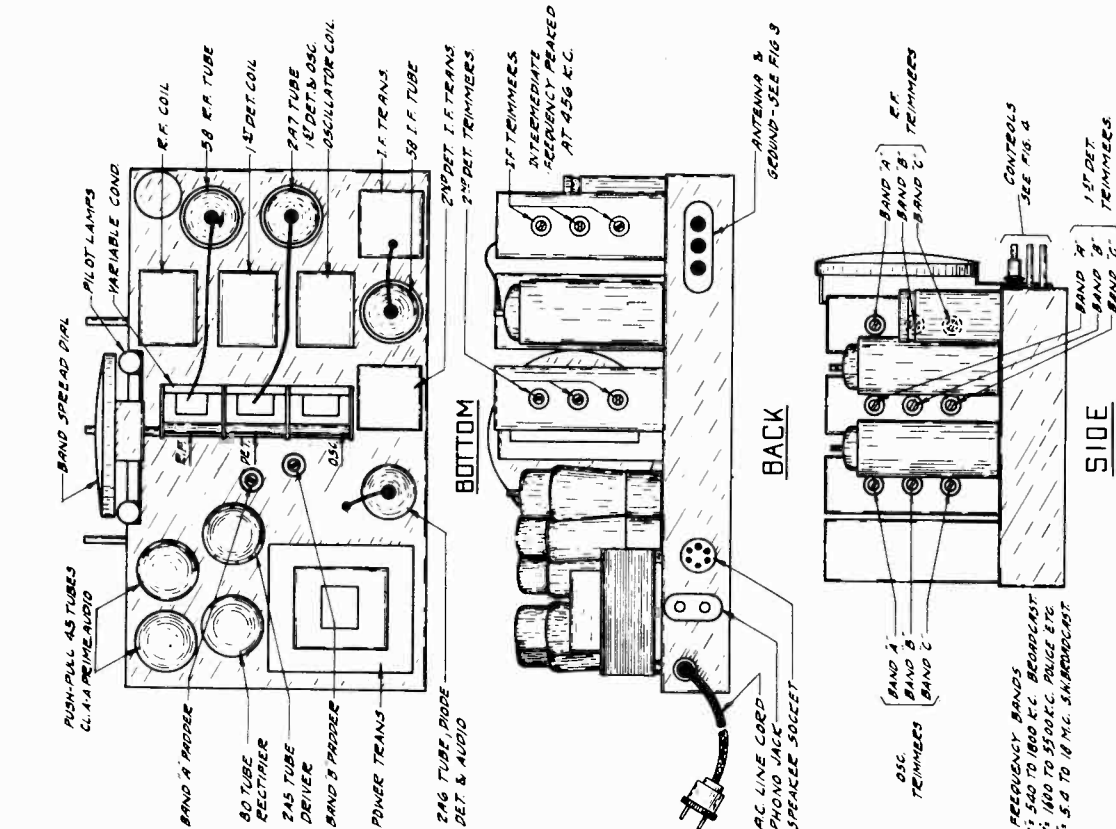

FIG. 2
**ALIGNMENT** The procedure outlined below should be followed should the receiver require alignment. For location of adjusting trimmers and peckers, see Fig. 2.